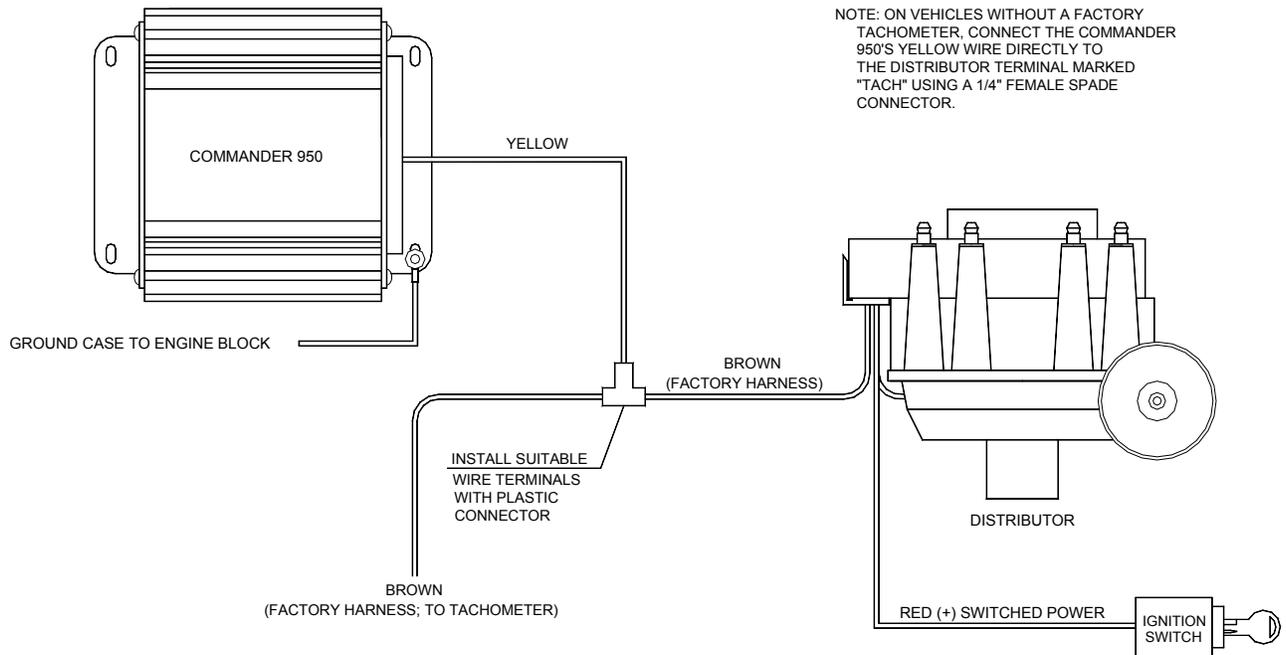

Figure 76
- Figure 76:** Commander 950 PRO to GM HEI Using Mechanical and Vacuum Advance 4-Pin Module Distributor.